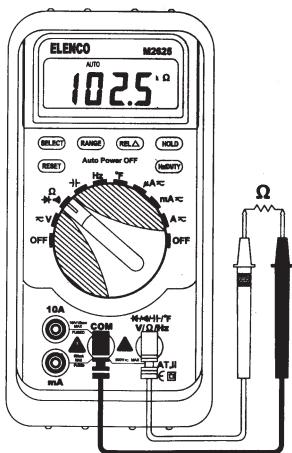

Figure 10. Resistance Measurement
1. To measure resistance, turn on the meter, then set up the meter as shown in Figure 10.